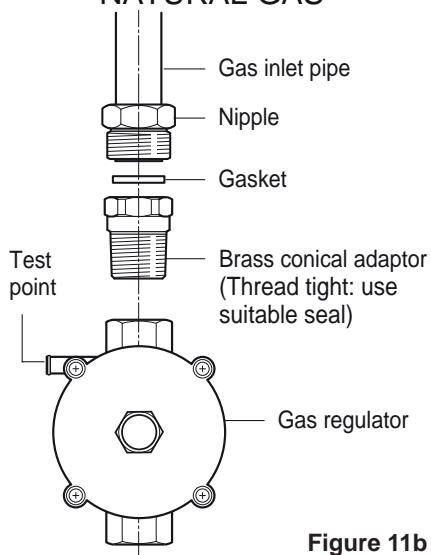

Figure 11b
- For Natural Gas models the gas supply is connected to the pressure regulator which is supplied with the appliance (fig. 11b). Adjust the regulator to obtain a test point pressure of 1 kPa with the two semi-rapid (SR) burners operating at maximum.